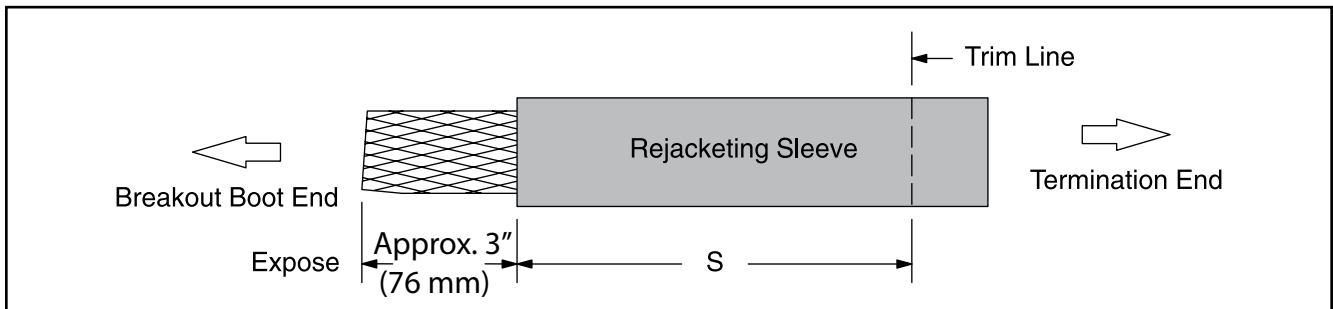

Figure 6
4.4 Using scissors, trim rejacketing sleeve assembly to length required (Figure 6). Cut tubing and inner braid together.